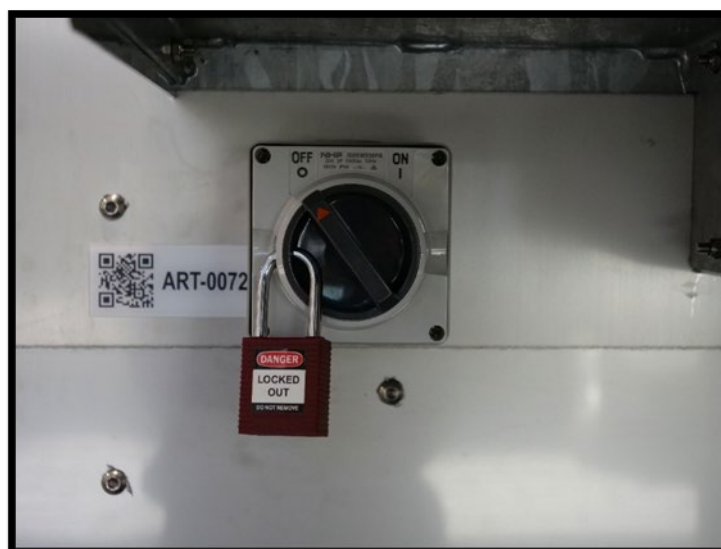

Figure 47. Power Isolator
- Switch off power isolator (at front of ART machine, under the glass lane entry point), place lock onto the Isolator switch and secure as seen on Figure 47